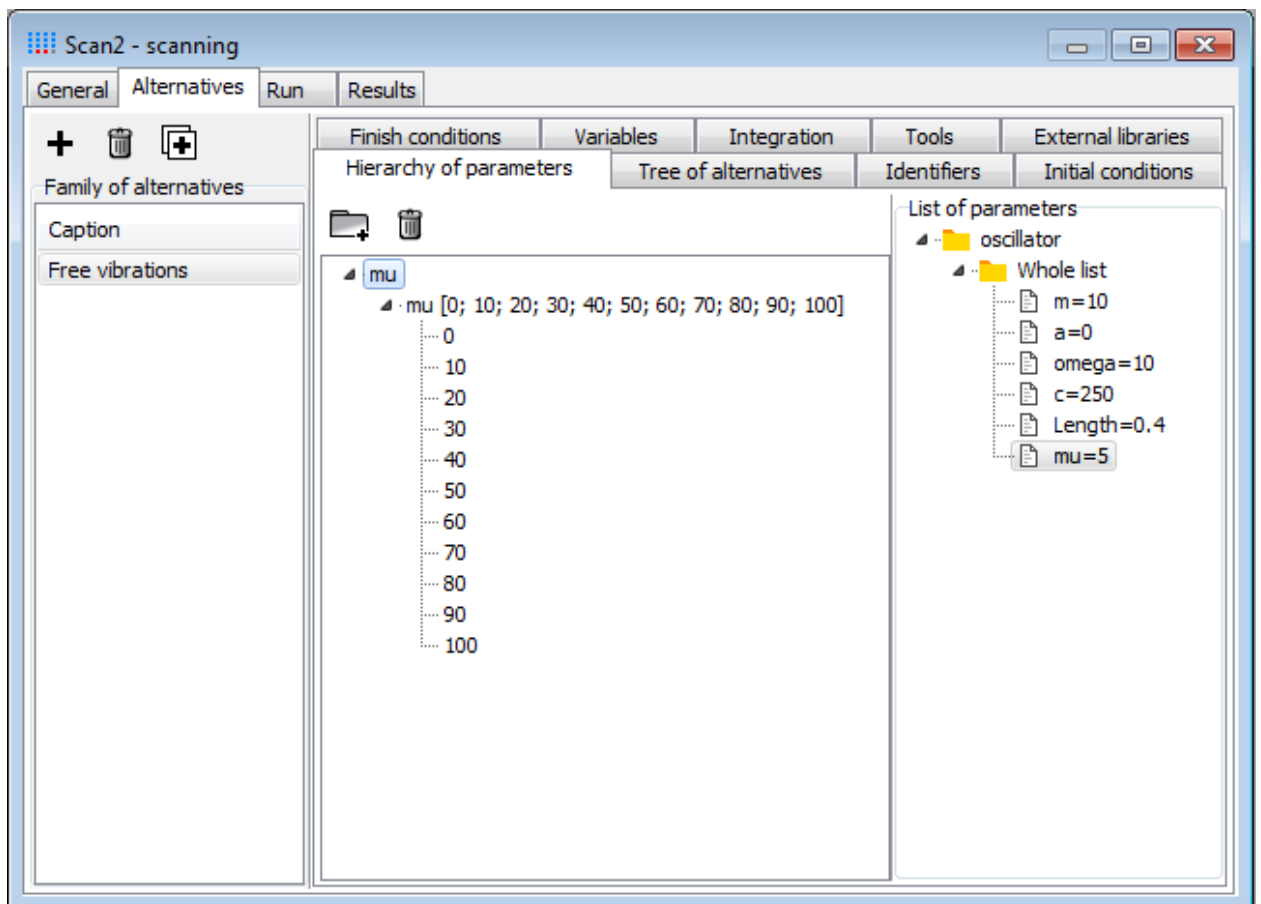

Figure 2.6. Hierarchy of parameters
3. Click the **OK** button and come back to the project window. The **mu** appears in the new **Group 1** in the **Hierarchy of parameters** tab, see Figure 2.6.
4. Select the **Group 1** node and click right mouse button to show the correspondent context menu. Select **Rename group of parameters** menu item and input **mu** as a group name. After this your scanning project should look like Figure 2.6.